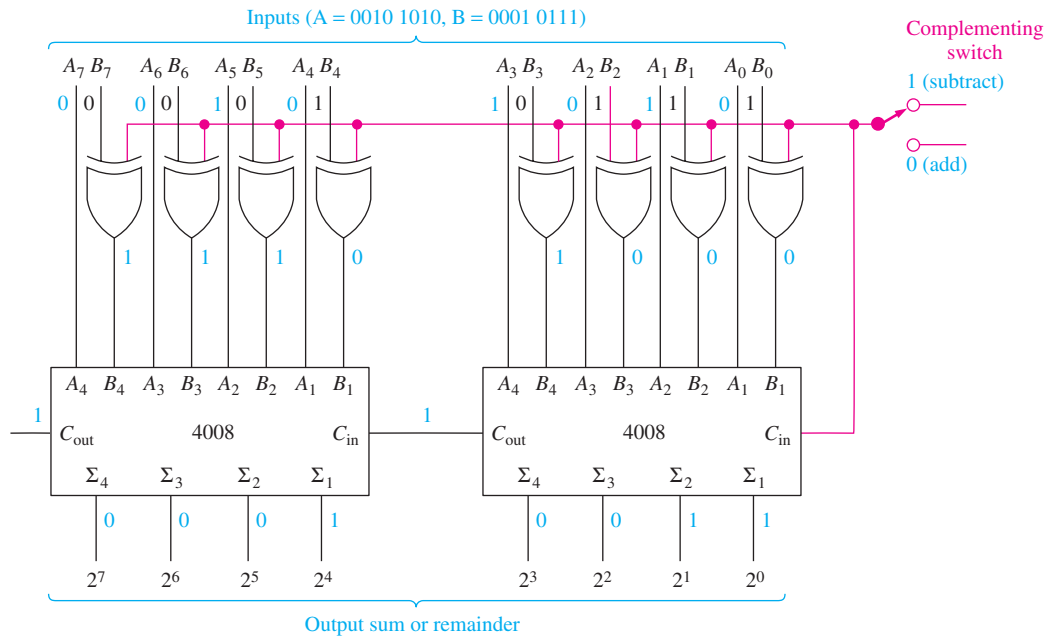
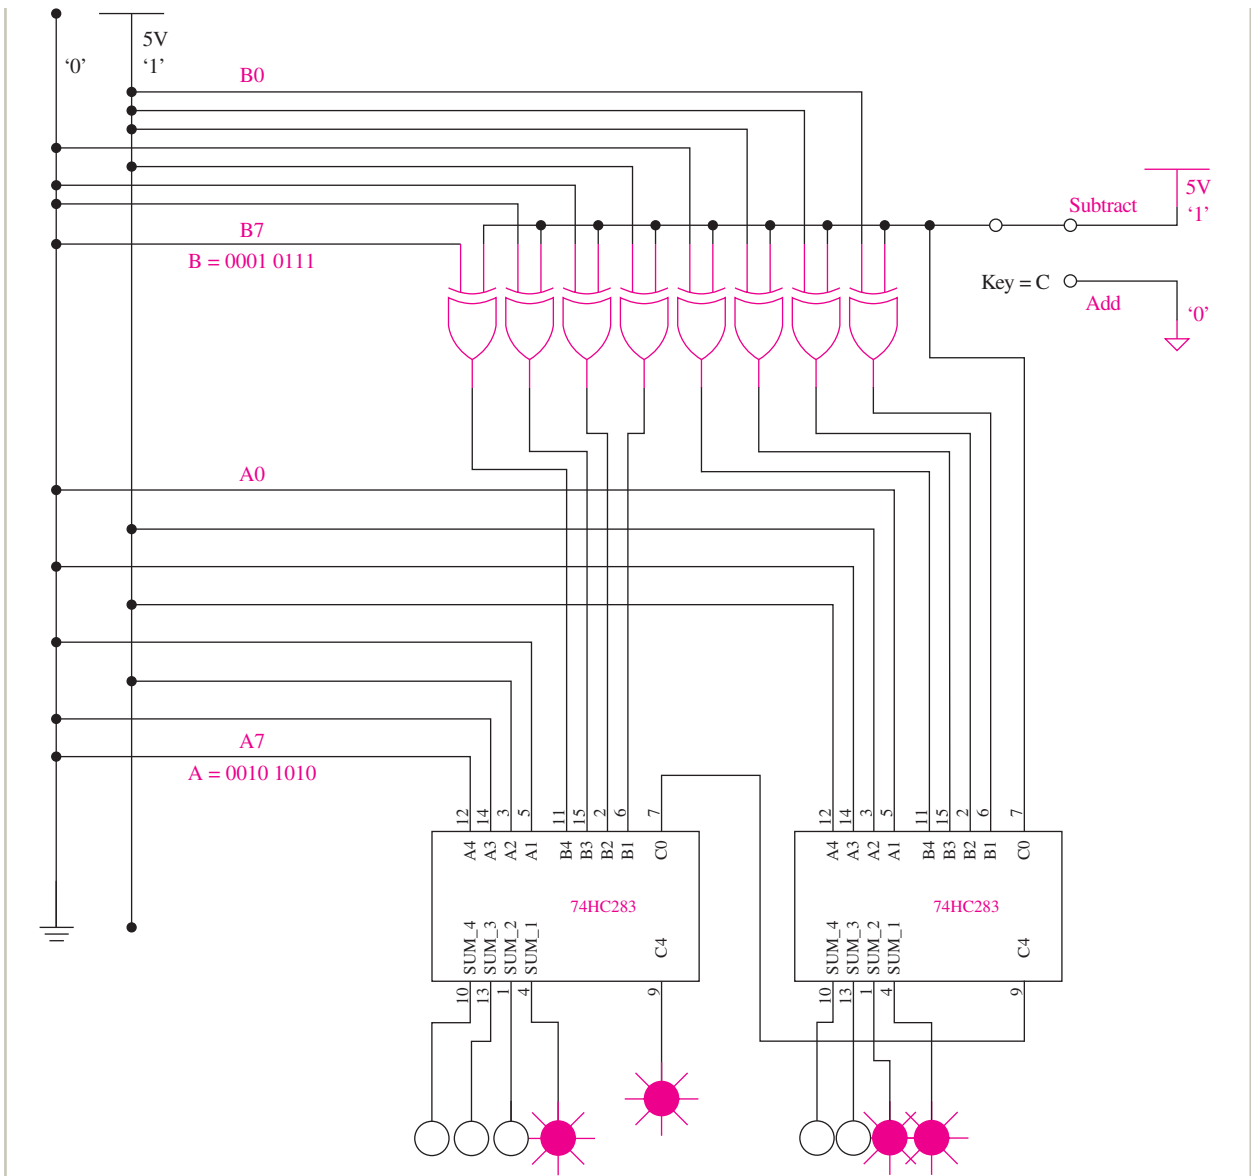

Figure 23 8-bit two's-complement adder/subtractor illustrating the subtraction $42 - 23 = 19$.
Figure 24 Simulation of an 8-bit two's complement adder/subtractor showing $42 - 23 = 19$.
To form negative two's complement, we can use the controlled inverter circuit presented in Figure 6–15 and add 1 to its output. Figure 23 shows the complete circuit used to implement a two's-complement adder/subtractor using two 4008 CMOS adders. The 4008s are CMOS 4-bit binary adders. The 8-bit number on the *A* inputs (A_7 to A_0) is brought directly into the adders. The other 8-bit binary number comes in on the *B*₇ to *B*₀ lines. If the *B* number is to be subtracted, the *complementing switch* will be in the up (1) position, causing each bit in the *B* number to be complemented (one's complement). At the same time, the low-order C_{in} receives a 1, which has the effect of adding a 1 to the already complemented *B* number, making it a negative two's-complement number.
Prove that the subtraction $42 - 23$ produces the correct answer at the outputs by labeling the input and output lines on Figure 23.
Solution: $42 - 23$ should equal 19 (0001 0011). Convert the decimal input numbers to regular binary, and label Figure 23 ($42 = 0010\ 1010_2$, $23 = 0001\ 0111_2$). The B input number is complemented, the LSB C_{in} is 1, and the final answer is 0001 0011, which proves that the circuit works for that number.
Try adding and subtracting some other numbers to better familiarize yourself with the operation of the circuit of Figure 23.
In Figure 24, MultiSIM[®] is used to simulate the operation of an 8-bit two's complement adder/subtractor similar to Figure 23. (MultiSIM[®] uses the label $C0$ for C_{in} and $C4$ for C_{out} .) The circuit is hard-wired to subtract the numbers 42 ($0010\ 1010_2$) minus 23 ($0001\ 0111_2$). The output LEDs indicate the correct answer of 0001 0011, which is a decimal 19. Also notice for this case that there is a carry out of the high-order 4 bits (as there always should in subtraction with positive answers).
- 20. The complementing switch in Figure 24 is placed in the 1 position to subtract B from A . Explain how this position converts the binary number on the B inputs into a signed two's-complement number.